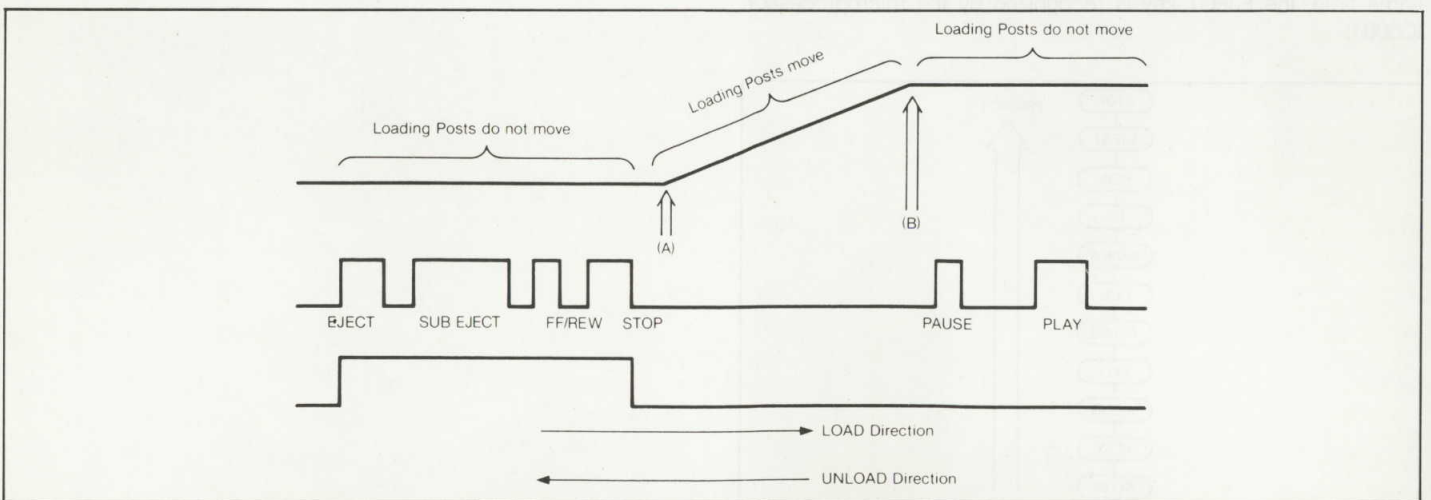

Fig. 4—10 LOAD and UNLOAD Movement
As shown in Fig. 4—10, the Portable VCR loading posts move with the movement of the Mode Select Switch. The relationship between Loading Posts and the Mode Select Switch is such that the posts move only when the moving contact moves between the (A) and (B) positions of the mode select switch. The posts do not move between the (A) and EJECT Positions, or between the (B) and PLAY positions. For example, when the Play key is pressed, the loading posts and the main rod start moving. Prior to the (B) position, the loading posts are caught by the V stoppers and the design of the Cam Gear prevents them from moving further. Since the Play key was pressed, the contact of the mode select switch will advance to the PLAY position. During this period, the tension post and other parts of the mechanism will move to suitable positions to be ready for the playback operation when the mode select switch reaches the PLAY position.